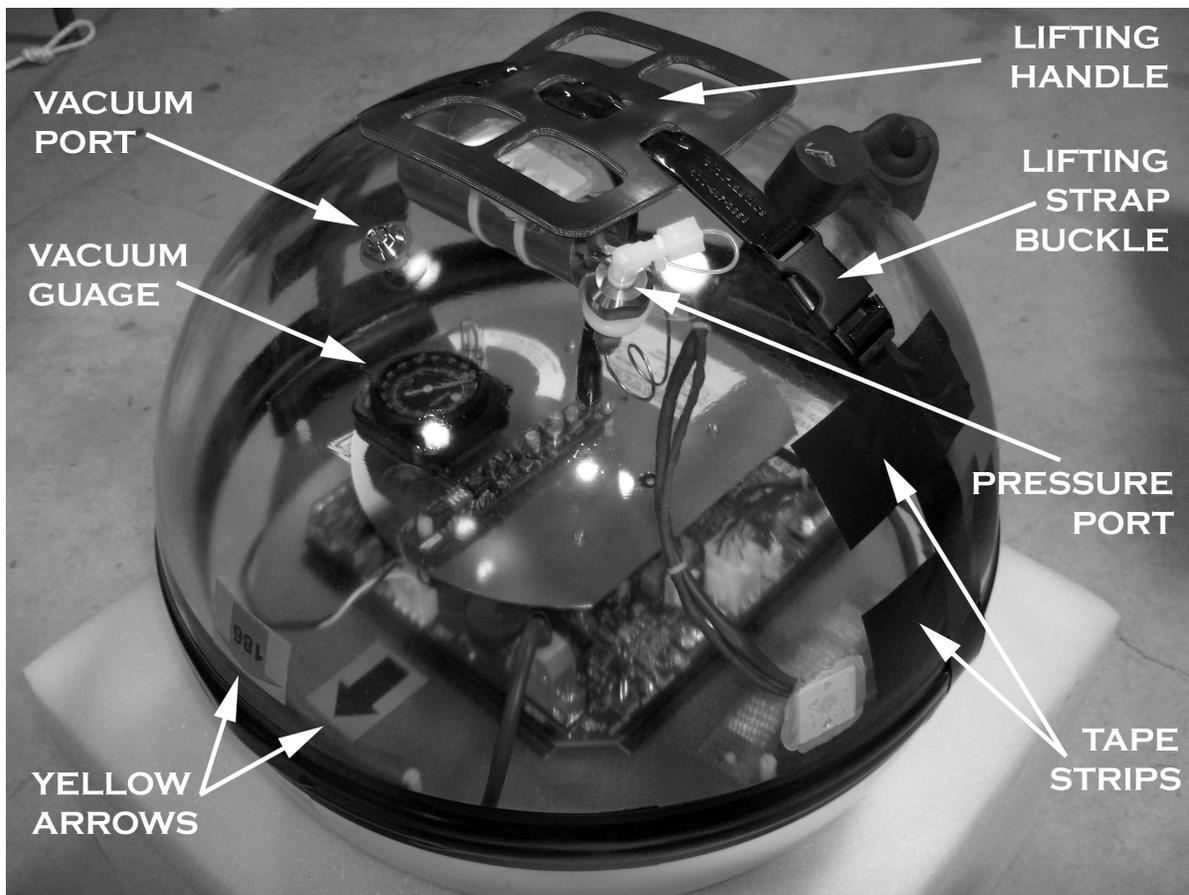

Figure 7-2 IES Sphere Assembly
16. Install the plastic belt and rubber handles at right angles to the equator joint as shown in figure 7-2 (note the position of the lifting handle, buckle and clasp relative to the top of the assembly). Adjust the buckle of the belt so that when the belt ends are joined together the belt is tight around the sphere. Put a tape strip across the lifting strap on both sides of the lifting handle as shown in Figure 7-2. The IES sphere assembly is now ready to be installed into the hard hat.